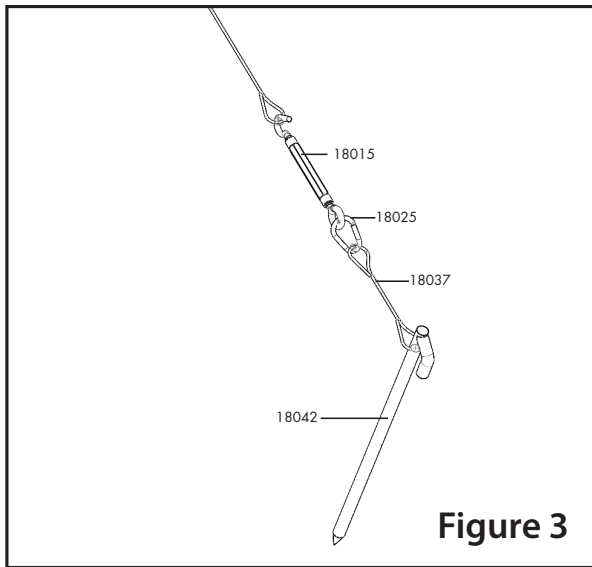

Figure 3
16. Grab a turnbuckle (18015) and unscrew it to create spacing between the bolt heads (**Fig. 3**).
12. Grab a turnbuckle (18015) and unscrew it to create spacing between the bolt heads (**Fig. 3**). Place the end frame turnbuckles on the same side as the middle turnbuckle.